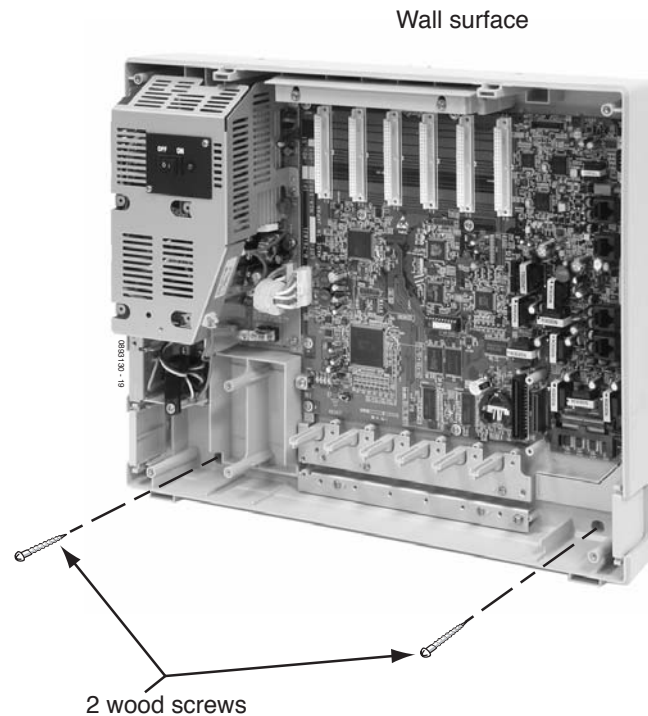

Figure 1-8: FASTEN CABINET TO WALL
**Securing the Cabinet to the Wall (Figure 1-5 - Figure 1-8)**